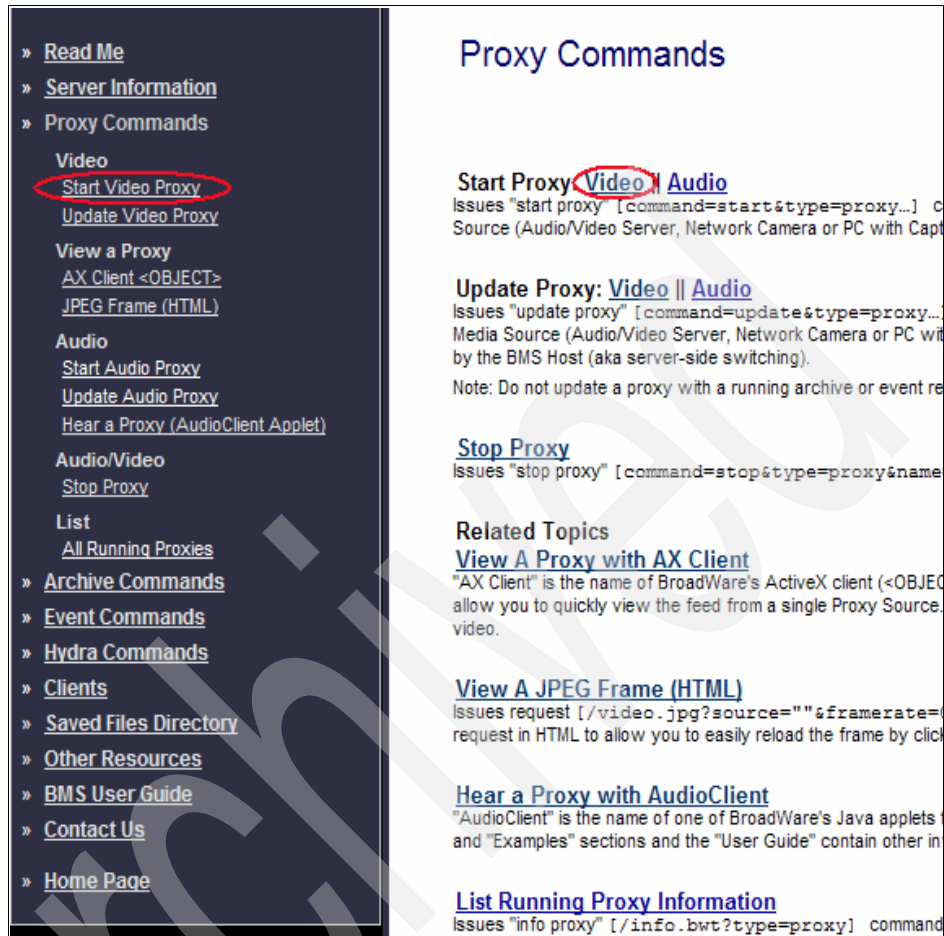

Figure 8-3 Proxy Commands
4. On the Proxy Commands page, Figure 8-3 on page 250, you can choose to start, update, list, view or stop an existing proxy. To create a proxy, from the navigation menu, click **Start Video Proxy** or under the Proxy Commands section, go to the Start Proxy section, and click **Video**.